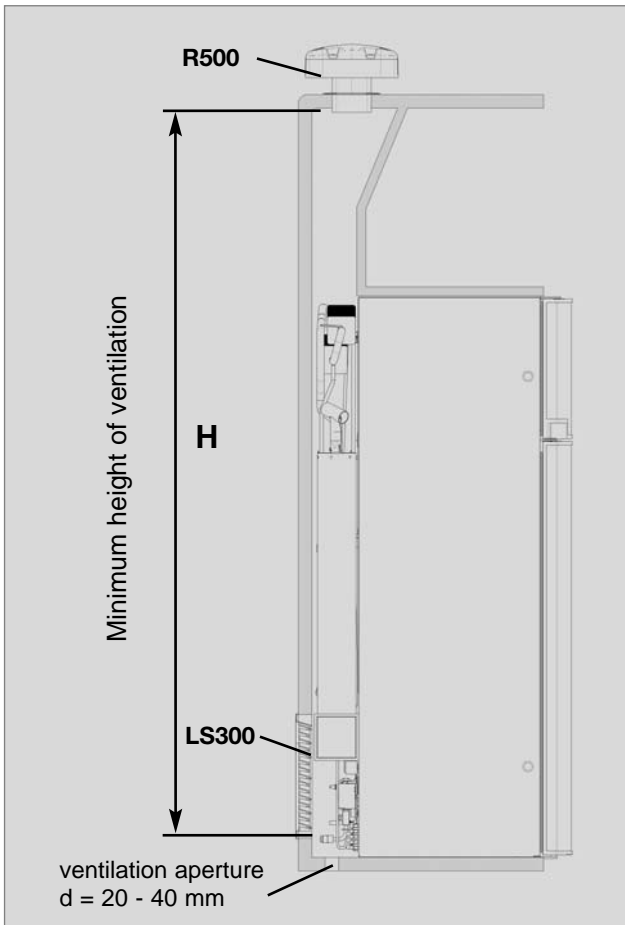

Fig. 11
Ventilation is provided for the unit by means of two apertures in the caravan wall. Fresh air enters at the bottom, extracts the heat and exits through the upper vent grille (chimney effect). **The upper ventilation grille should be positioned as high as possible above the condenser (A). Install the lower ventilation grille at floor level of the vehicle**, allowing unburnt gas (heavier than air) to escape directly into the open air. Should this arrangement prove impossible, a ventilation aperture must be introduced by the manufacturer of the vehicle into the recess floor in order to avoid the accumulation of unburnt gas on the floor (Fig. 11,12).
To install the ventilation grilles, cut two rectangles in the outer wall of the vehicle (for position of the cuts, see Fig. 11,12).).